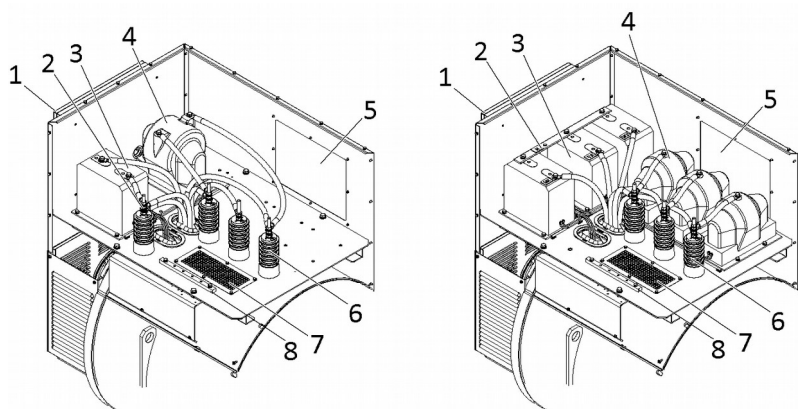
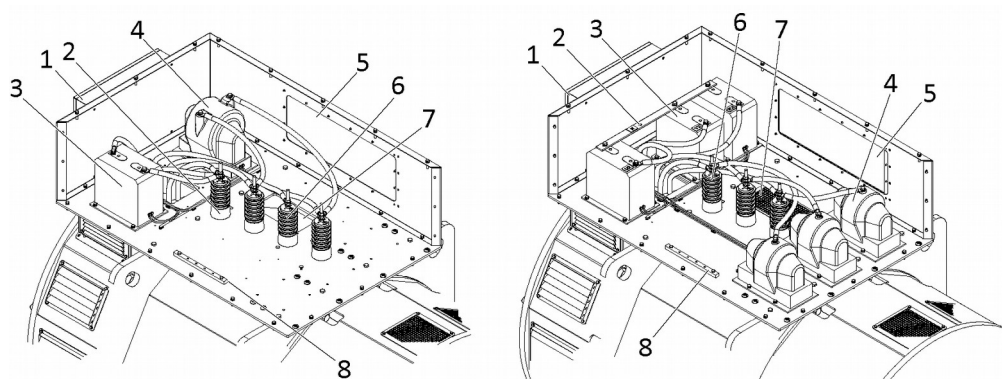

Figure 15- ECO 46 terminals box
Figure 16- ECO 49 terminals box
Connect the alternator to the utility, making reference to Figure 15- and Figure 16- .
- 3- Current sensor (TA)
- 4- Voltage sensor (TV)
- 6- Phases connection terminals (U-V-W from left to right in Figure 15- and Figure 16-)